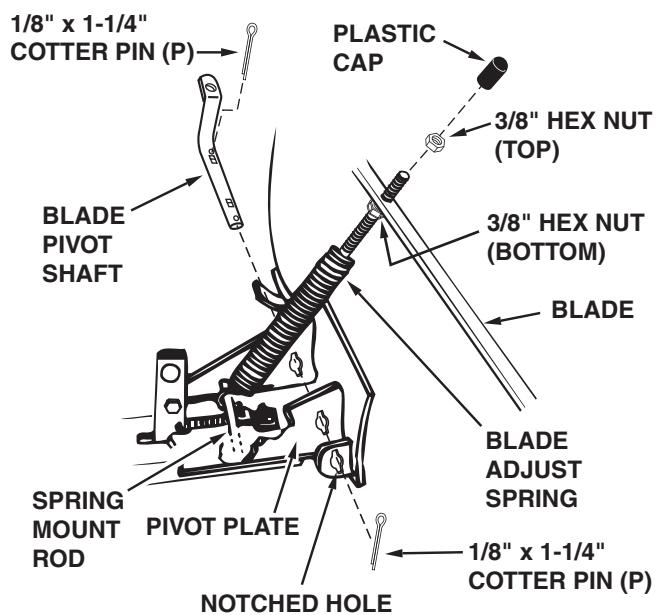

FIGURE 17
#### STEP 17: (SEE FIGURE 17)
- The tension of the blade adjust spring may be altered to permit the blade to tilt forward to bypass solid obstructions. To change the spring tension, adjust the nuts at upper end of the spring bolt. Standing in front of blade, turn the nuts counterclockwise to relieve tension and clockwise to increase tension. Refer to figure 17 on page 9.